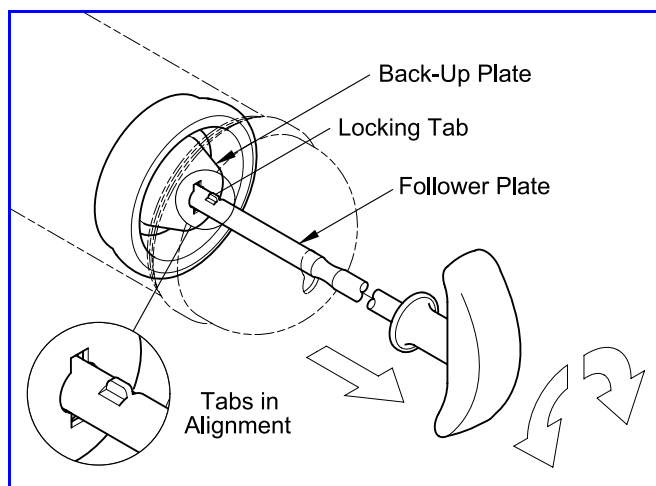

Figure 3 Follower Rod Locking Tabs Aligned with Back-Up Plate
2. Pull the Follower Rod outward from the Cylinder Cap. At the same time, rotate the Rod to allow the Locking Tabs access through the Back-Up Plate. See **Figure 3**.